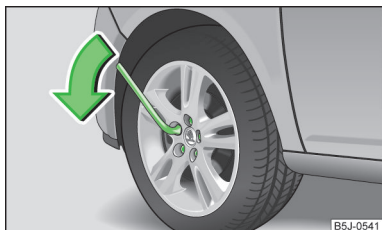

Fig. 148
- Grip the wrench at its end and turn the bolt about **one** turn in the direction of the arrow » Fig. 148.
- Grip the wrench at its end and turn the bolt against the direction of the arrow » Fig. 148 until it is tight.